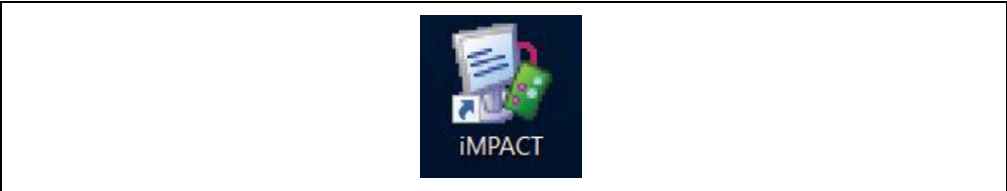

FIGURE 4-1: iMPACT Icon.
1. Start the iMPACT tool of Xilinx by clicking on the iMPACT icon. See Figure 4-1.